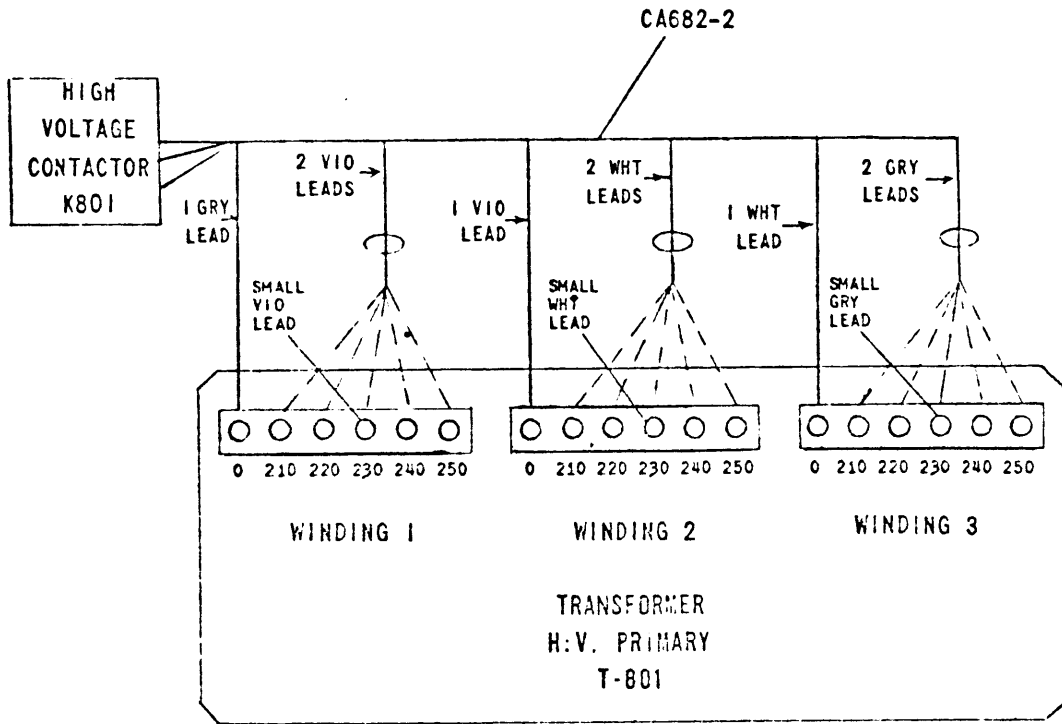

Figure 2-4. Transformer HV Primary Connections
c. Refer to figure 5-14 and position transformer in frame accordingly. Connect transformer leads in the following manner. Refer to figure 2-4 and connect CA682-2 to transformer primary terminals. Each of the three primary sections has three heavy insulated leads that must be connected between terminal "0" and the corresponding primary a-c input voltage tap (210). The length of each heavy lead is such that they will align with the voltage tap sections to which they must be connected.
Additionally, there are small insulated leads that must be connected to the primary sections. (See figure 2-4.) Connect: